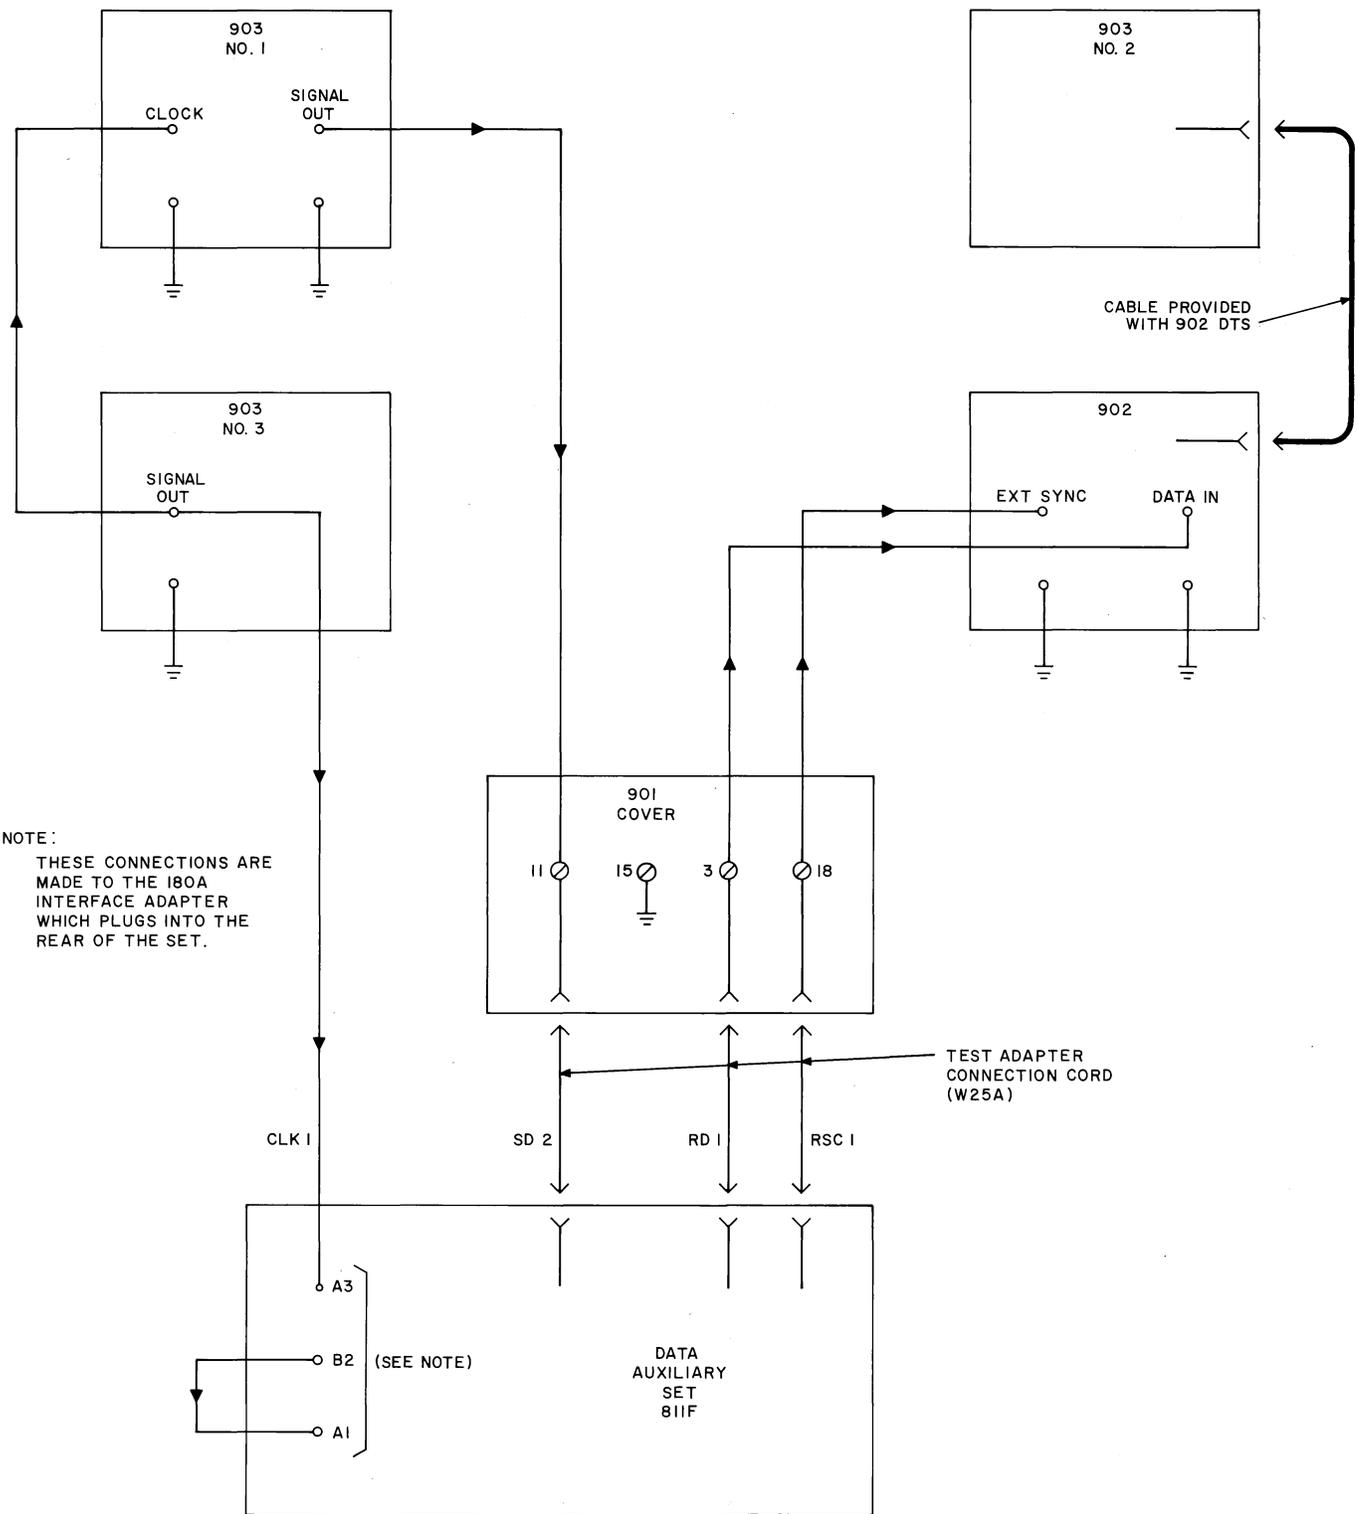

Fig. 2—Test Connections, First Direction
- (a) Connect the test circuit as shown in Fig. 2. The controls on the data test sets should be as follows: